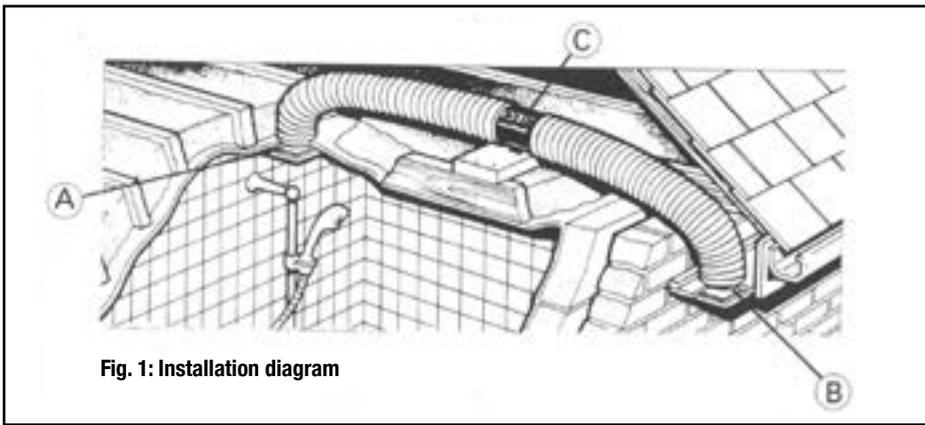

Fig. 1: Installation diagram
- This tubular extractor is designed to be installed in a flexible or rigid ducting of 100/125/150/200 mm diameter depending on the MF model. The extractor (C) is placed between the inlet (A) and the exhaust (B) (Fig. 1).